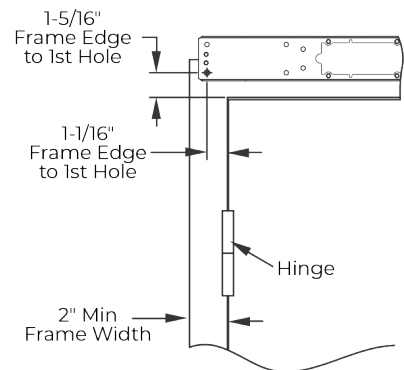

Figure 2 Right Hand Shown
2. Measure, mark, and drill the first mounting hole according to template referenced on page 8. (Figure 2)